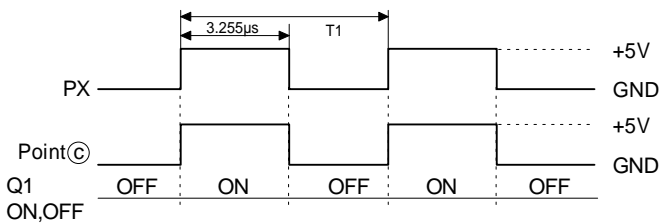

Fig. 4-2
- (2) The potential at point  $\alpha$  is 4.8V when the output voltage is +12V(About +11V). A load fluctuation causes the +12V output to change. At point  $\beta$  of the comparators (+) side, a triangular waveform appears as shown in Fig. 4-2.
- (3) The comparator (IC No. 8...Circuit B ), the potential at point  $\alpha$  is compared with that of point  $\beta$ . If the potential at point  $\alpha$  is lower than point  $\beta$ , Q1 activating time is prolonged to raise the output voltage (by increasing the duty cycle). On the contrary, if the potential at point  $\alpha$  is higher, the transistor activating time is hortened to decrease the output voltage (by decreasing the duty cycle). As Q1 duties cycles are varied by detecting the +12V output fluctuation in the comparator (Circuit B ), the output voltage is regulated at a constant level.